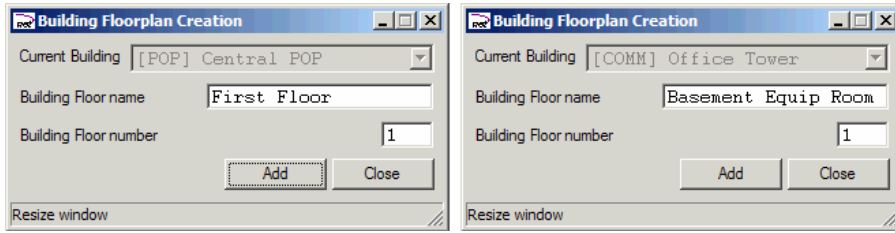

Figure 218 – Floor details to be added for **Central POP** (left) and **Office Tower** (right)
2. Fill in the values for each of the fields shown in Figure 218, below for each of the buildings, and click the **Add** button.